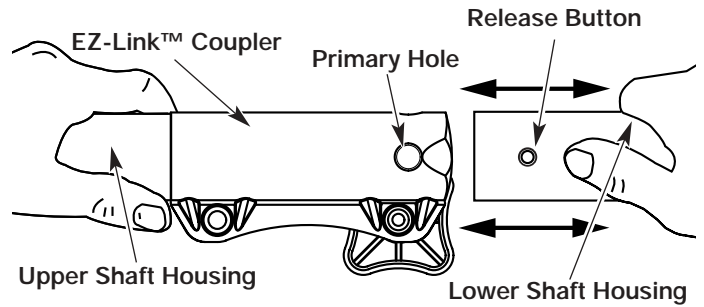

Fig. 10
3. While firmly holding the upper shaft housing, pull the cutting attachment or add-on straight out of the EZ-Link™ coupler (Fig. 10).
2. While firmly holding the add-on, push it straight into the EZ-Link™ coupler (Fig. 10).
|  | CAUTION: Lock the release button in the primary hole (Fig. 10) and securely tighten the knob before operating this unit. |